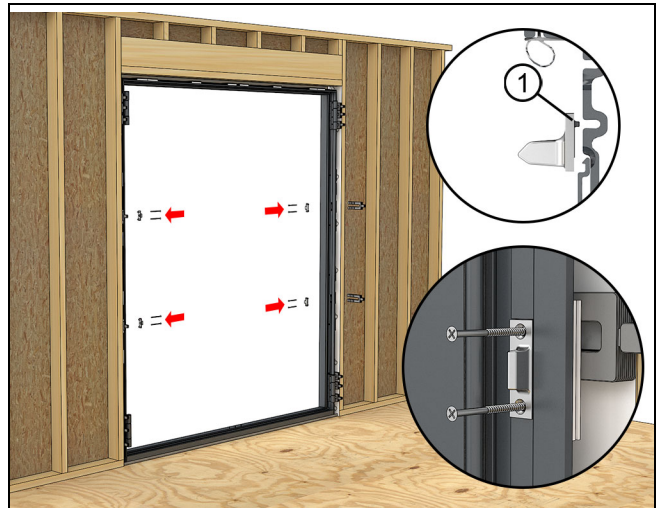

Figure 56
19. Install the panel alignment bolts between the hinges on the frame. Note the tab on the back side of the bolt. This fits into the kerf on the frame. Shim between the frame at the bolt locations and fasten with #8 x 3" screws. Figure 56.